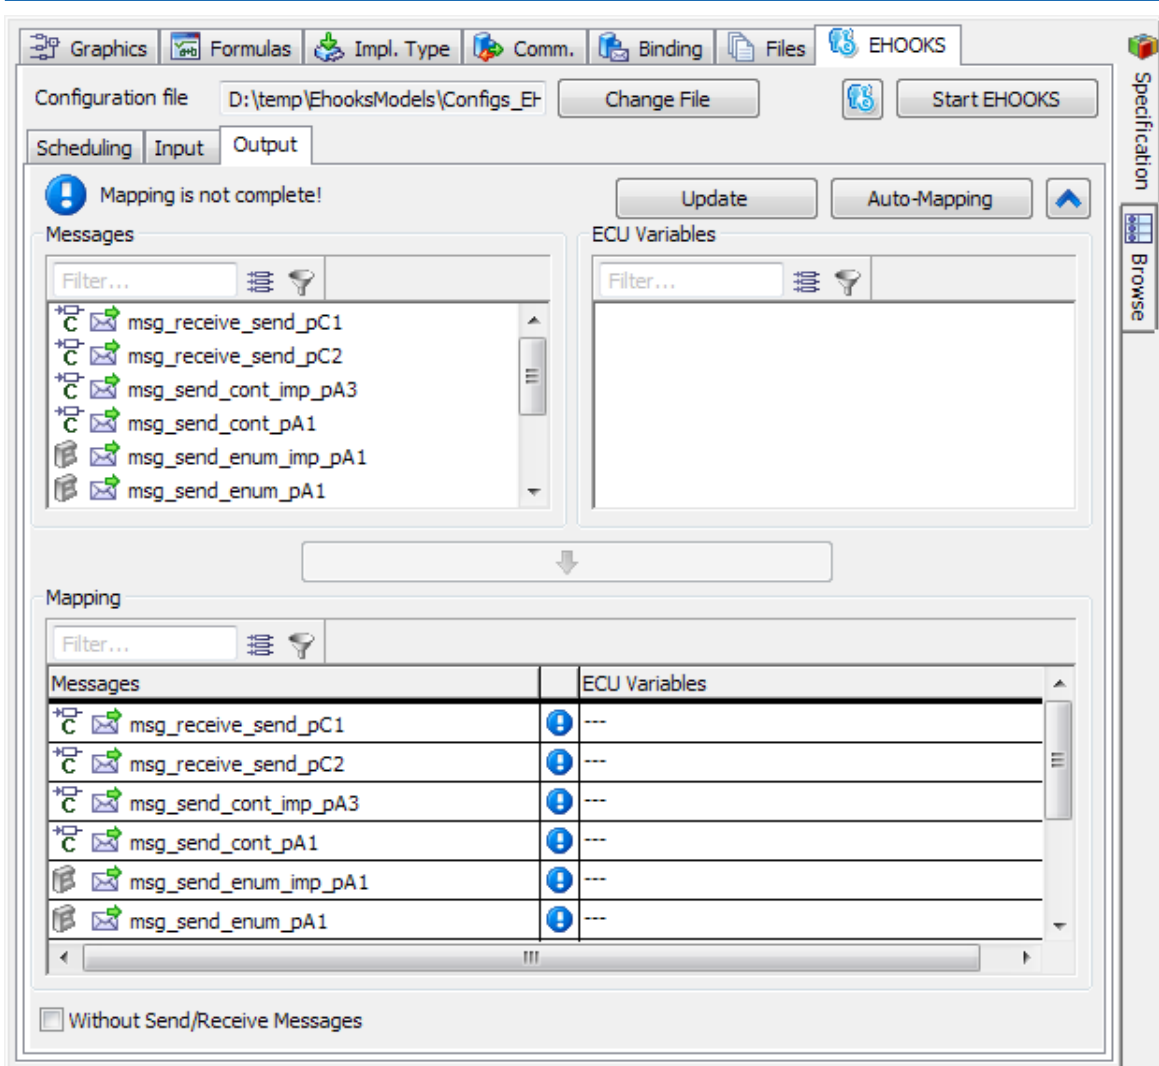

Figure 4.11: "Output" tab
- To select ECU Write Hook variables, go to the "Output" tab (Figure 4.11 on page 27).
- To map ECU Write Hook variables, go to the "Output" tab (Figure 4.11 on page 27).